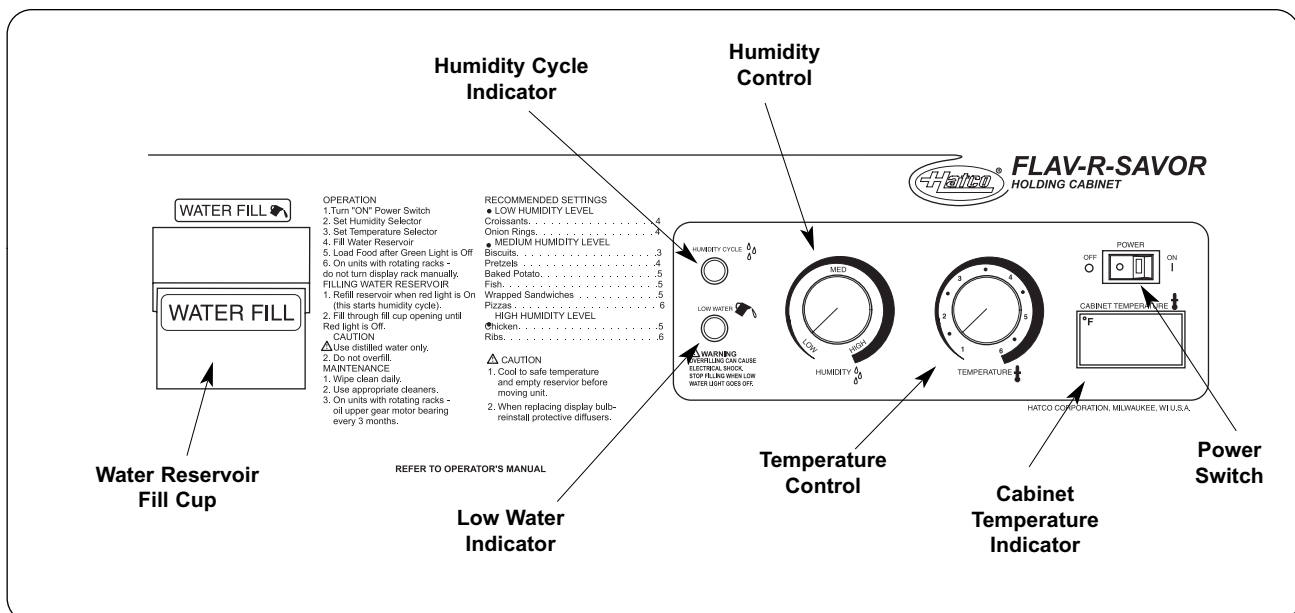

Figure 8. Control Panel
2. Turn the Power Switch on the control panel to the ON position. The indicators will light up at this time. (See Figure 8.)